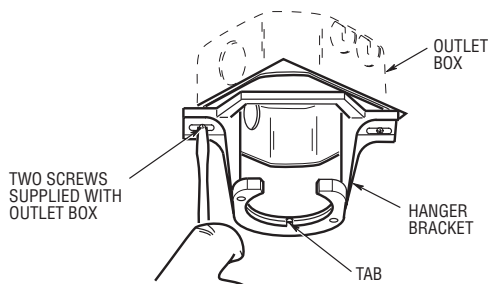
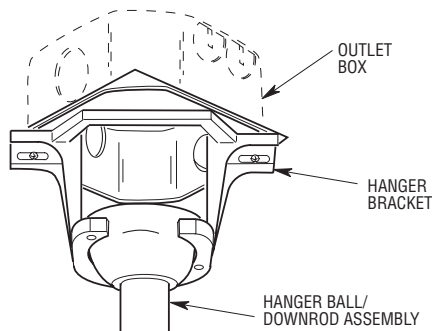

Figure 15
Figure 16
1. Securely attach the hanger bracket to the outlet box using the two screws supplied with the outlet box (Figure 15).
2. Carefully lift the fan and seat the hanger ball/downrod assembly on the hanger bracket that was just attached to the outlet box (Figure 16). Be sure the groove in the ball is lined up with tab on the hanger bracket (Figure 15).